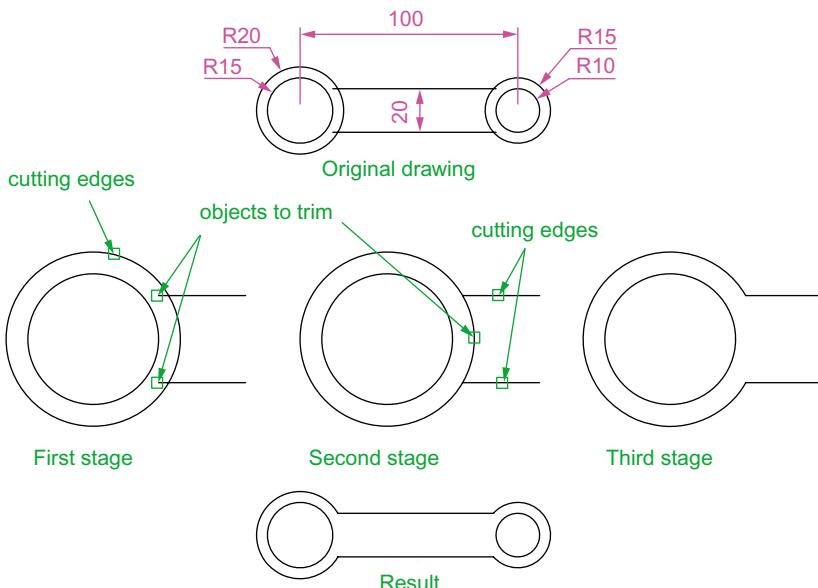

Fig. 5.31 First example – Trim
First example – Trim (Fig. 5.31)
1. Construct the drawing **Original drawing** in Fig. 5.31.
3. This completes the **First stage** as shown in Fig. 5.31. Repeat the Trim sequence for the **Second stage**.
4. The **Third stage** drawing of Fig. 5.31 shows the result of the trims at the left-hand end of the drawing.
5. Repeat for the right-hand end. The final result is shown in the drawing labelled **Result** in Fig. 5.31.